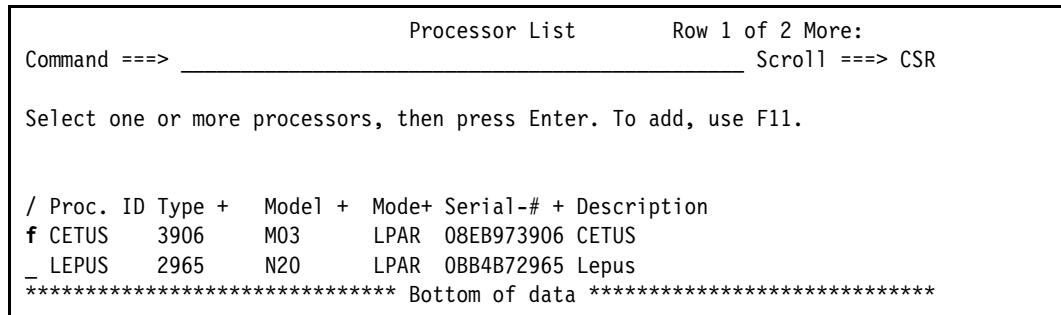

Figure 15-15 Processor List: Adding PCIe functions to a processor, zEDC
2. Enter f (work with PCIe functions) next to the processor (CETUS) to which you want to define the zEDC functions and press **Enter**. See Figure 15-15.